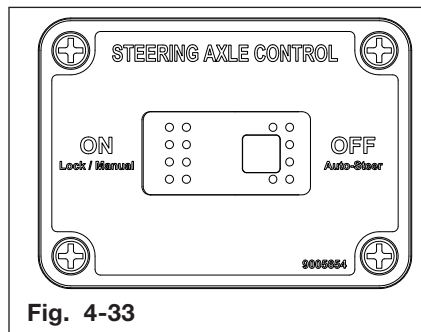

Fig. 4-33
3. Make sure the steering axle control switch is in the OFF/Auto-Steer position. (Fig. 4-33)